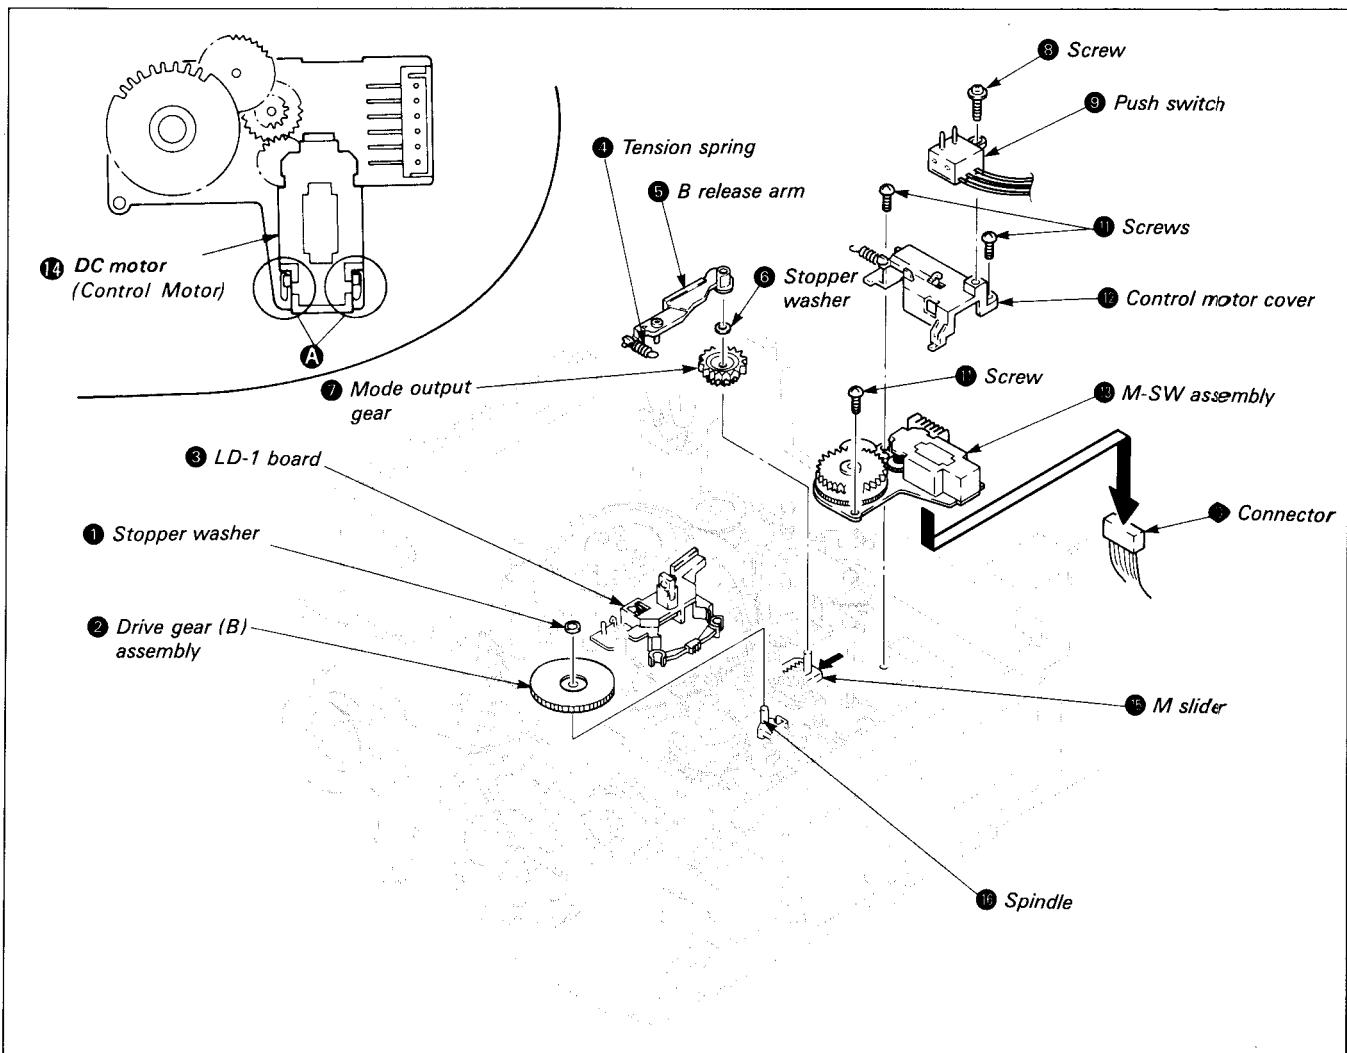

Fig. 7-38.
- 1) Solder the DC motor (Control Motor) ⑪.
- 2) Mount the M-SW assembly ⑬ and the control motor cover ⑫, and tighten the three screws ⑩.
- 3) Connect connector ⑯.
- 4) Mount push switch ⑨ and tighten screw ⑧.
- 6) Check that M slider ⑮ is moved fully in the direction of arrow ⑮.
- 7) Place a half drop of oil on spindle ⑯. (See Fig. 7-38.)